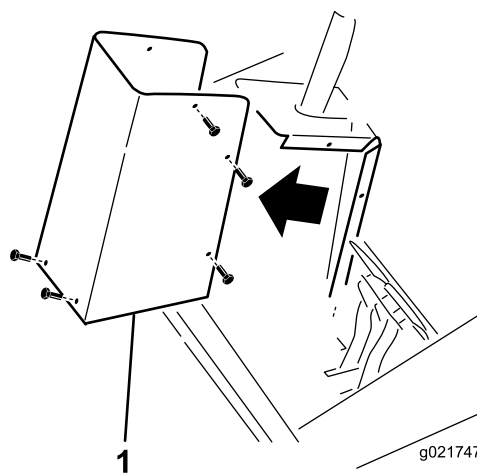

Figure 1
1. Remove the steering tower cover from the steering tower (Figure 1).